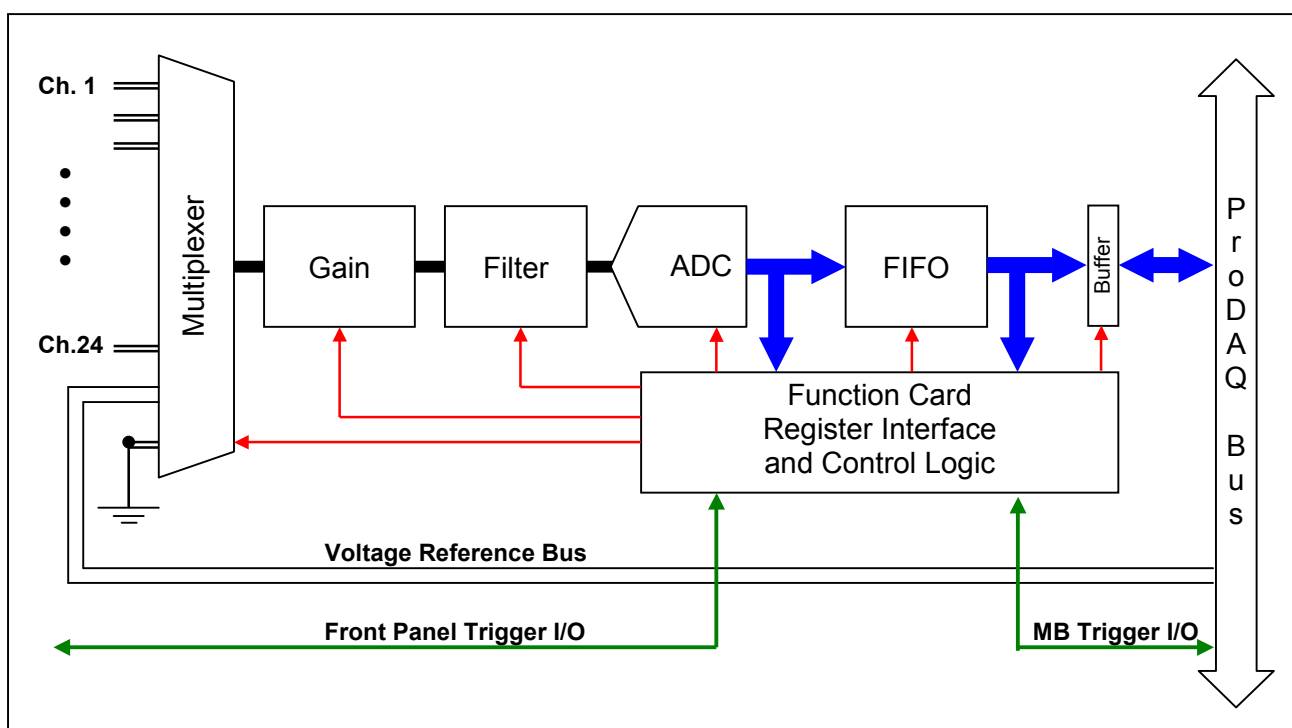

Figure 3 - ProDAQ 3410 Block Diagram
- If you want to install a function card in the upper position of a stack without having a function card in the lower position, you need to mount both spacers (Fig. 3, Pos. 11) on each standoff. If the stack is already populated with a function card in the lower position, mount only the bigger spacer (Fig. 2, Pos. 8) onto each standoff.
The ProDAQ 3410 function card houses a 1:26 differential multiplexer, which is used to switch the signals from the 24 input channels and two internal channels to a gain and filter stage before converting them with a high-speed 16-bit Analog-to-Digital converter (see Figure 3 - ProDAQ 3410 Block Diagram).